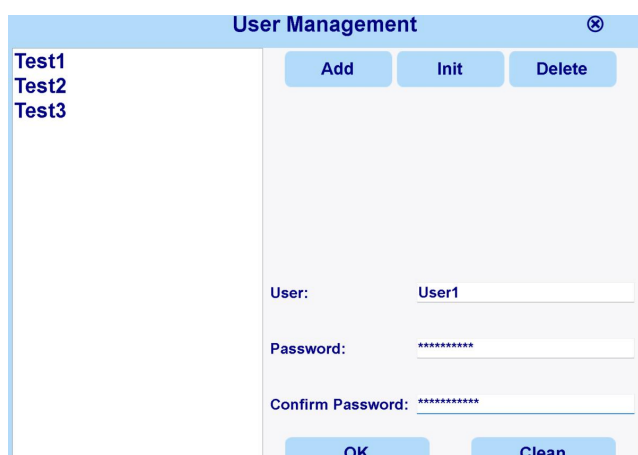
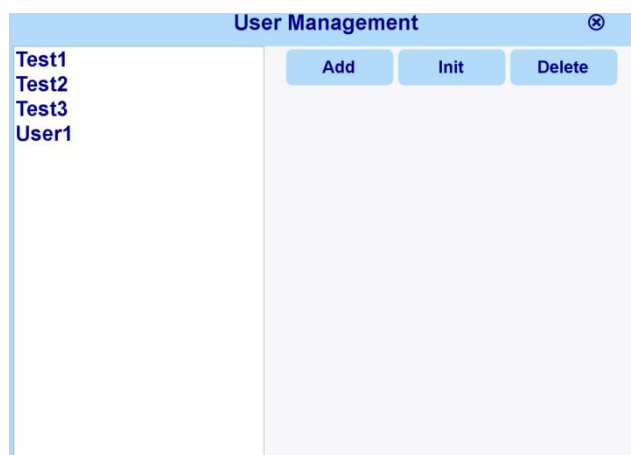

Figure 5-7 User addition interface
Figure 5-8 User added successfully
- **Add user:** Click the "Add" button, the user information input box will be displayed (for example, if we create a new user User1, the user name cannot be empty, cannot be Admin, cannot be Pro_IGS, and cannot have the same name as the existing user name), enter the password twice in a row , must be consistent and cannot be empty (Figure 5-7) , click the "OK" button and User1 will be successfully inserted into the left list (Figure 5-8) .